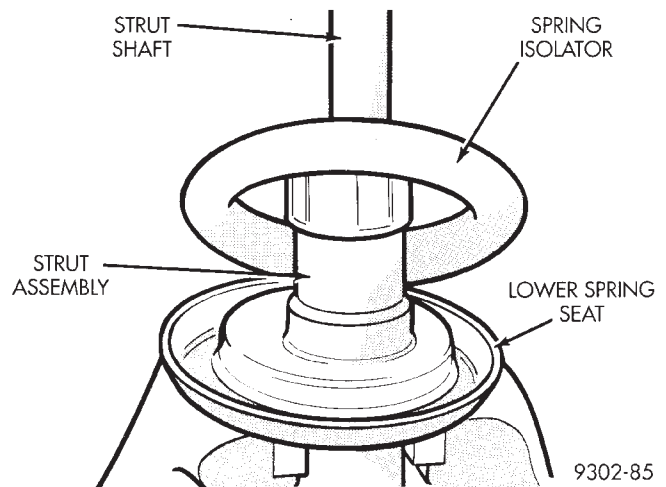

Fig. 6 Lower Spring Isolator
(8) Remove lower spring isolator from strut assembly (Fig. 6).
(1) Install original or new, lower spring isolator on strut unit (Fig. 6). If installing original isolator align paint marks on isolator and strut unit.